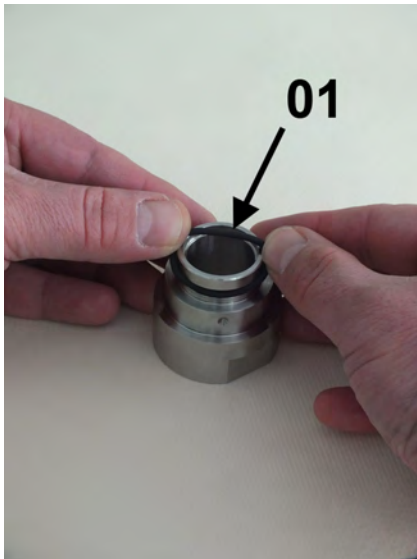
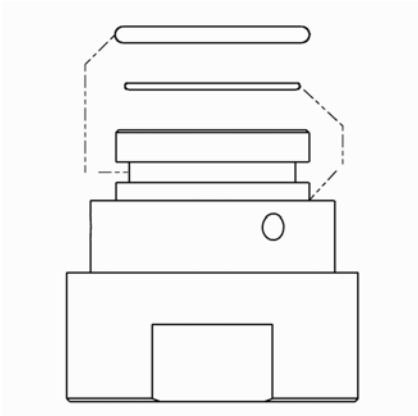

Fig. 40: O-ring (seal)
Fig. 42: Position of O-rings
1. ➤ Carefully install the O-ring (seal) onto the process connection (Fig. 40/01), so that it rests in the upper O-ring groove of the process connection (Fig. 42). When doing so, be careful not to overstretch the O-ring.
2. ➤ Carefully install the O-ring (Glass buffer) onto the process connection (Fig. 41/01), so that it is properly seated on the lower portion of the process connection (Fig. 42). When doing so, be careful not to overstretch the O-ring.